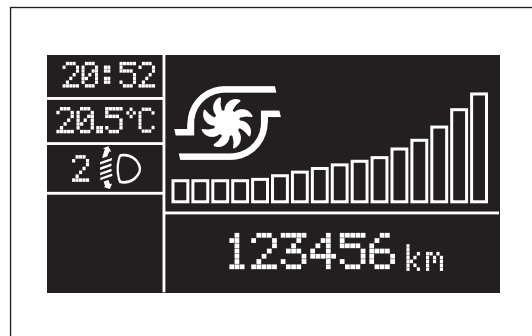

fig. 95
- ☐ Screen with turbocharger pressure: fig. 95.